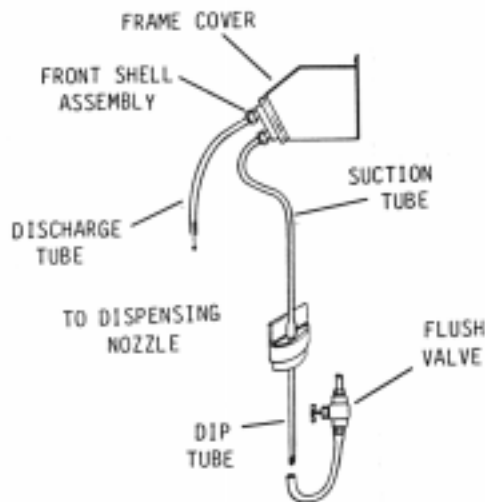

FIGURE 2. PURGING SYRUP FROM PUMP
1. REMOVAL OF PUMP FROM MERCHANDISER (See Figure 2)
12. REPLACING PUMP IN MERCHANDISER (See Figure 2)